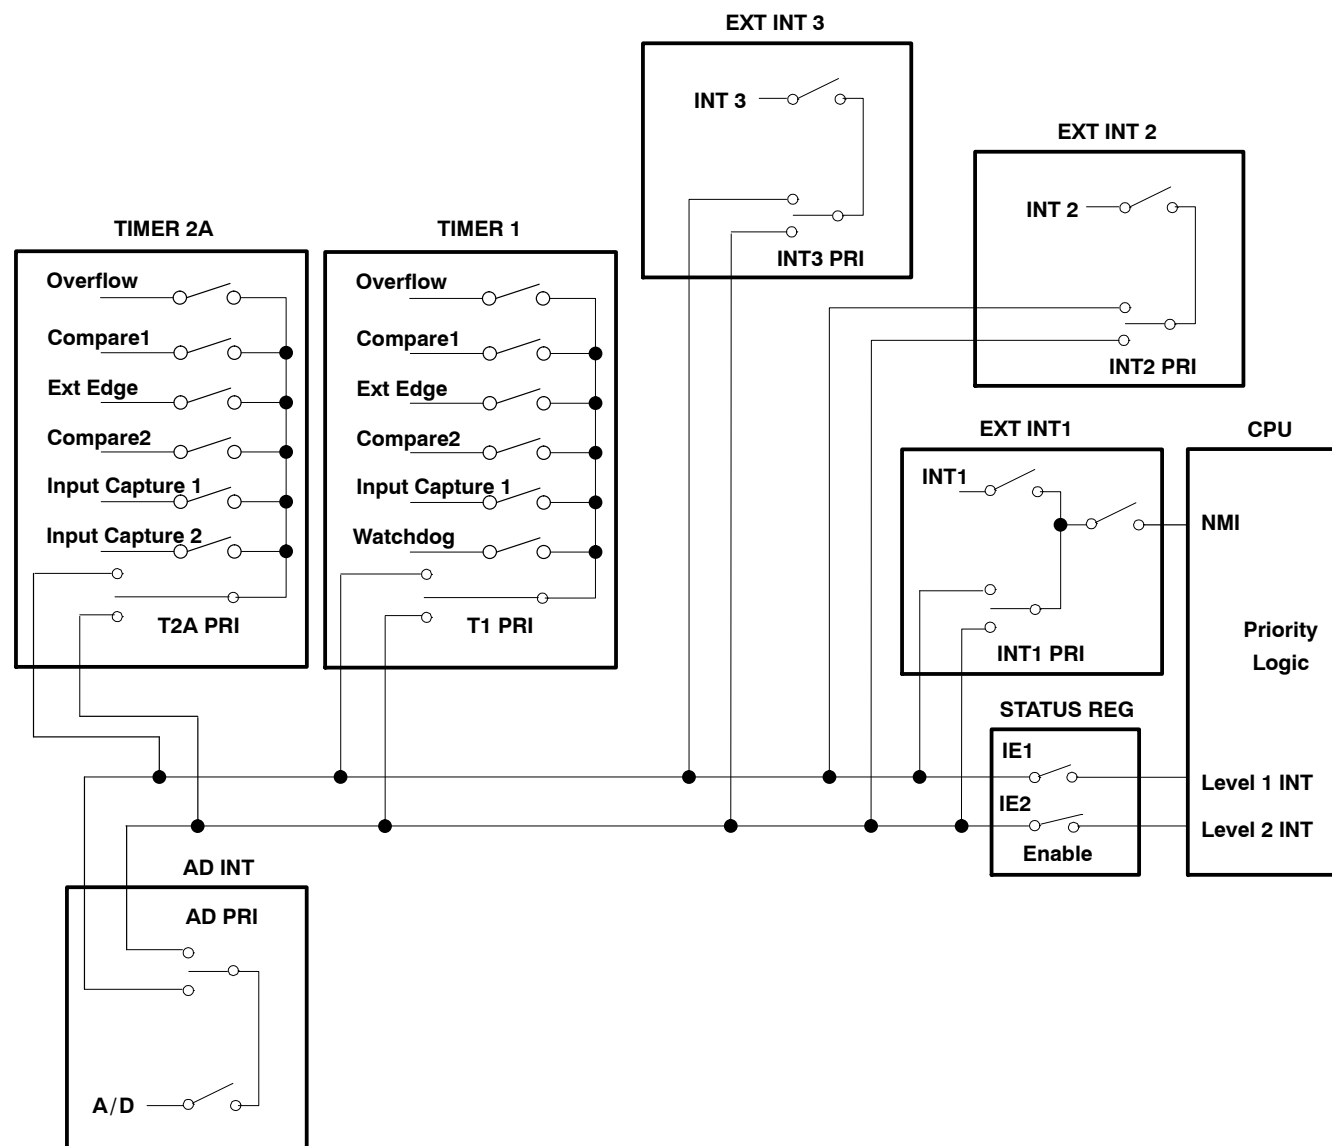

Figure 5. Interrupt Control
The TMS370 family software programmable interrupt structure permits flexible on-chip and external-interrupt configurations to meet real-time interrupt-driven application requirements. The hardware-interrupt structure incorporates two priority levels as shown in Figure 5. Interrupt level 1 has a higher priority than interrupt level 2. The two priority levels can be masked independently by the global-interrupt mask bits (IE1 and IE2) of the status register.
The TMS370Cx7x has six hardware-system interrupts (plus $\overline{\text{RESET}}$) as shown in Table 9. Each system interrupt has a dedicated vector located in program memory through which control is passed to the interrupt service routines. All of the interrupt sources are maskable individually by local interrupt-enable control bits in the associated peripheral file (PF). Each interrupt source FLAG bit is readable individually for software polling or for determining which interrupt source generated the associated system interrupt. The interrupt-control block diagram is illustrated in Figure 5.